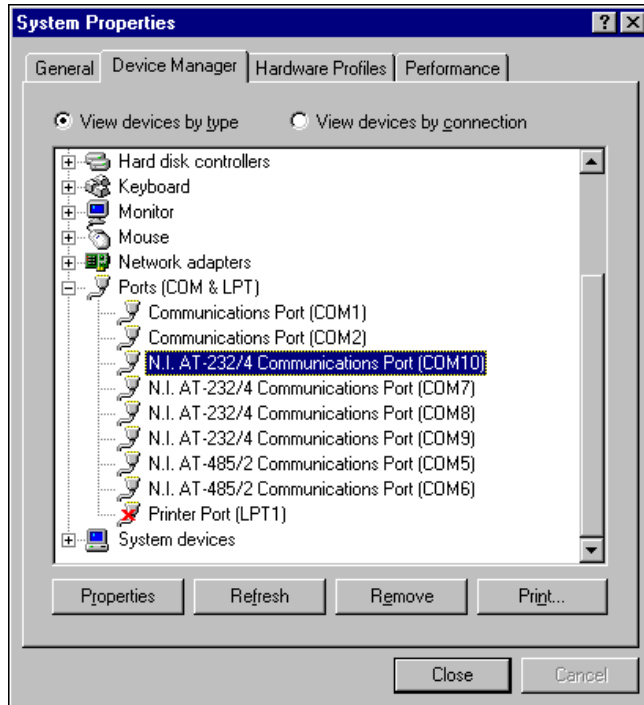

Figure B-1. Selecting an Interface to Uninstall
5. Select the National Instruments port to remove from the list of ports, as shown in Figure B-1.